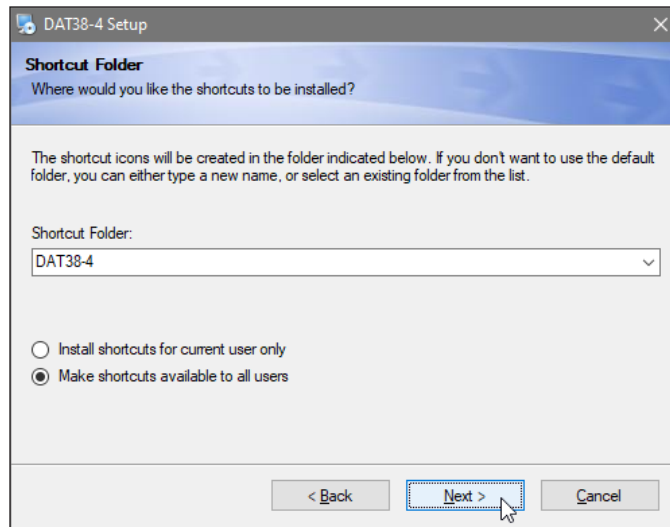

Figure 1.6 Select Shortcut Folder window
5. Once the directory is confirmed, click Next. The Select Shortcut Folder window will open (Figure 1.6). Customize or accept the default folder for the program menu. Click Next.